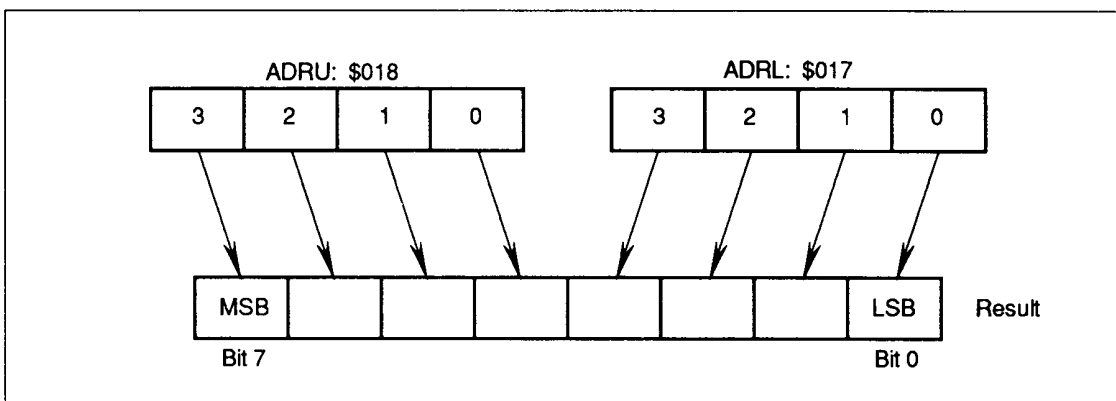

Figure 32 A/D Data Registers
**A/D Data Register (ADRL: \$017, ADRU: \$018):** Eight-bit read-only register that is not cleared by a reset. Note that data read from this register during A/D conversion cannot be guaranteed. After the completion of A/D conversion, the resultant eight-bit data is held in this register, as shown in figure 32, until the start of the next conversion.